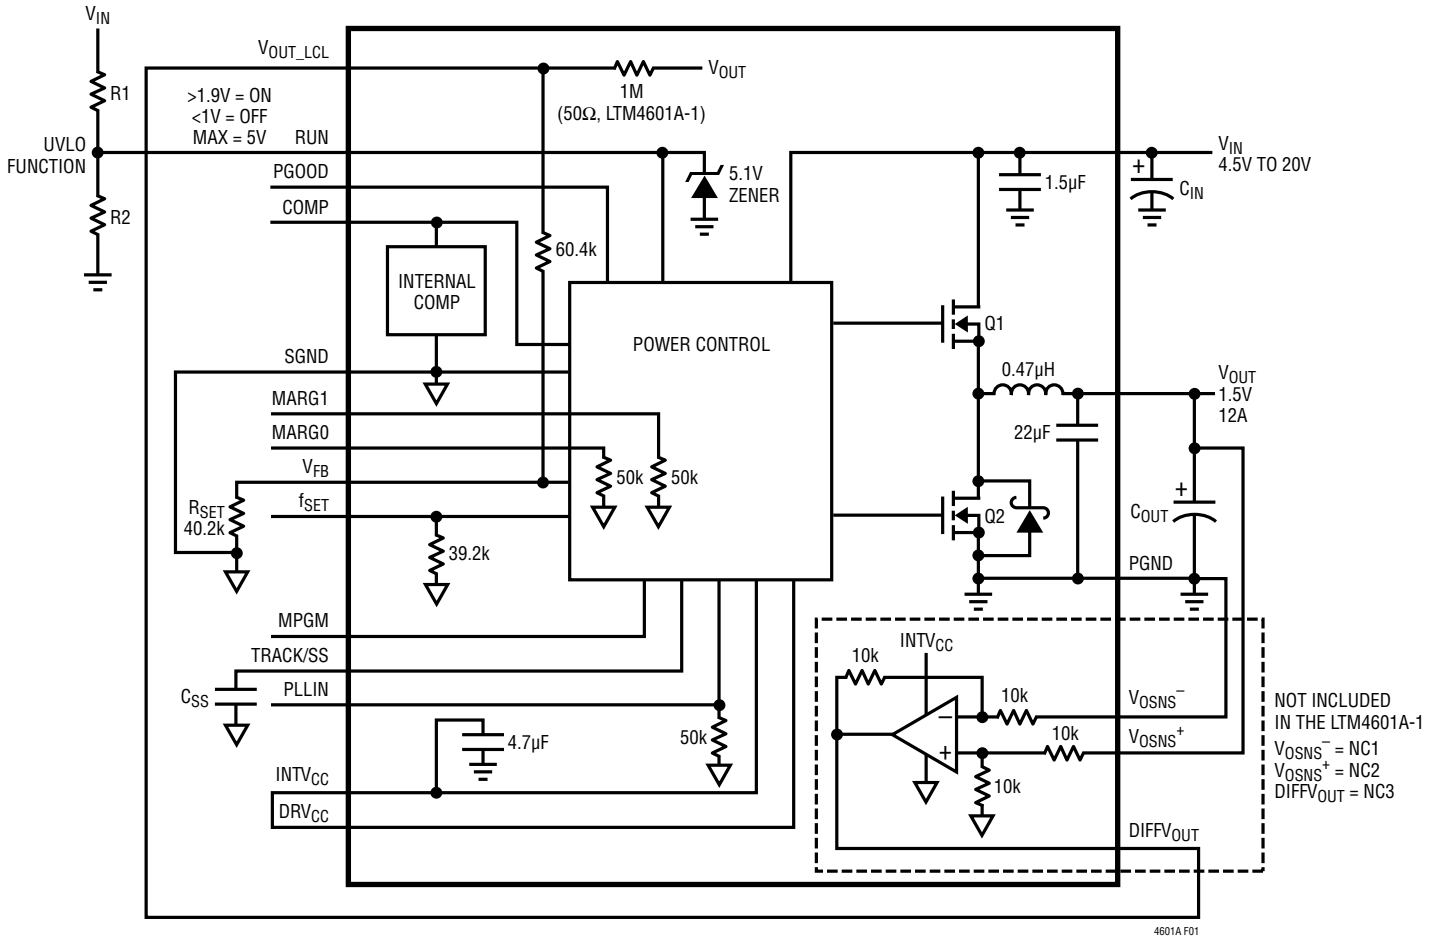

Figure 1. Simplified LTM4601A/LTM4601A-1 Block Diagram
**RUN (Pin A10):** Run Control Pin. A voltage above 1.9V will turn on the module, and when below 1V, will turn off the module. A programmable UVLO function can be accomplished by connecting to a resistor divider from  $V_{IN}$  to ground. See Figure 1. This pin has a 5.1V Zener to ground. Maximum pin voltage is 5V. Limit current into the RUN pin to less than 1mA.
**DECOUPLING REQUIREMENTS**  $T_A = 25^\circ\text{C}$ ,  $V_{IN} = 12\text{V}$ . Use Figure 1 configuration.
See Figure 1, Simplified Block Diagram.